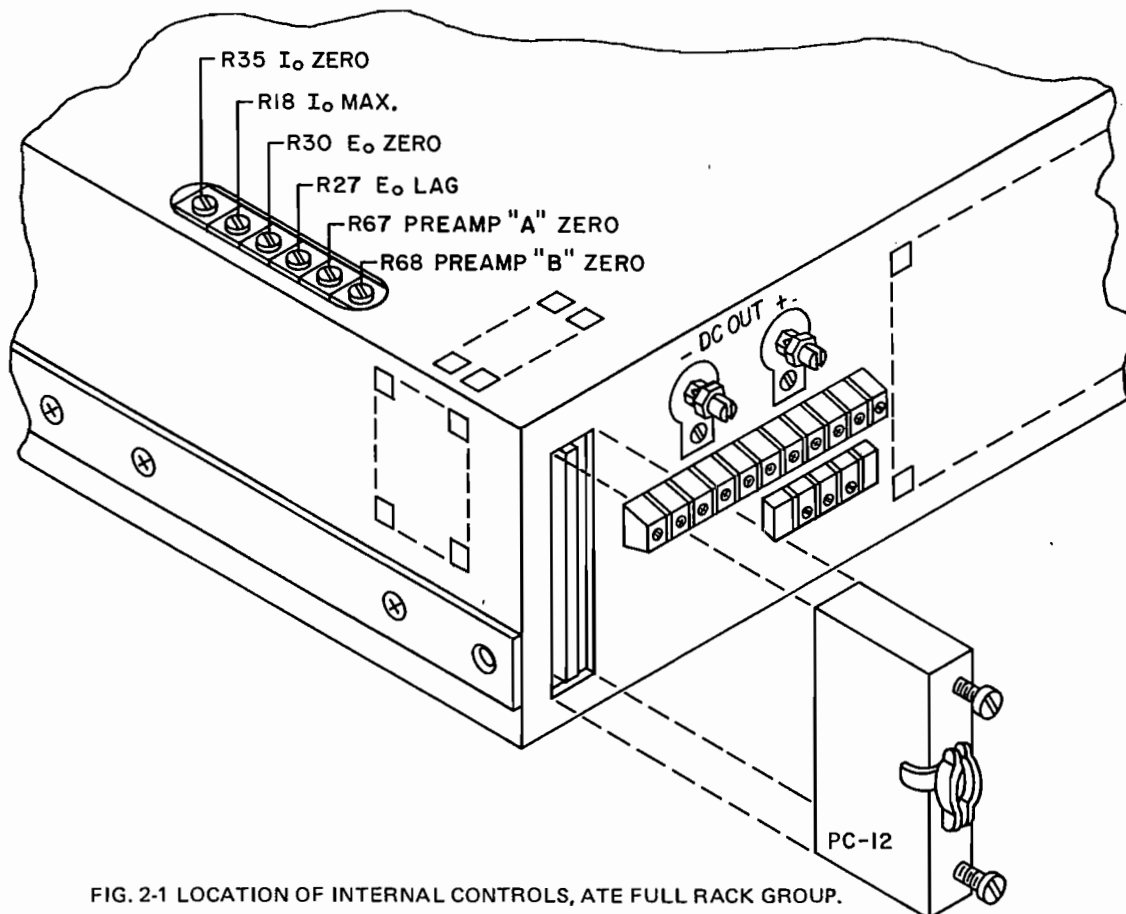

FIG. 2-1 LOCATION OF INTERNAL CONTROLS, ATE FULL RACK GROUP.
- c) INTERNAL CONTROLS: Refer to FIG. 2-1 and Table 2-1.
- 2-19 LAG NETWORK ADJUSTMENT. The ATE power supply operating in the "fast" mode, is dynamically stabilized by means of an internal lag network (E_o LAG, R27, see FIG. 2-1 for location). This control should be adjusted, for each application, by monitoring the load with an oscilloscope and turning the LAG control for best output response and maximum dynamic stability under all operating conditions.